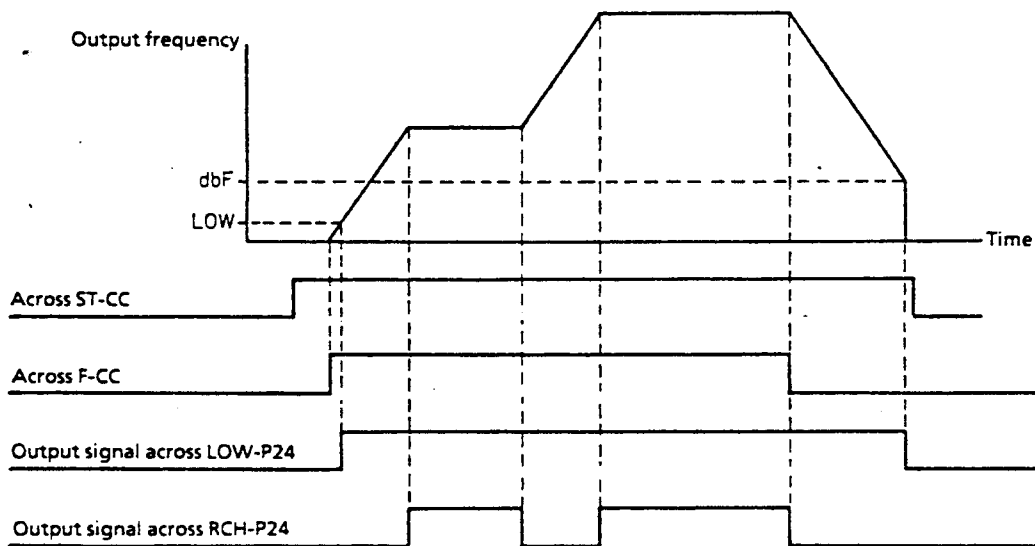

Figure 4.5 Example operation with low-speed and speed-reach signals
3) Example operation with low-speed and speed-reach signals (Figure 4.5).